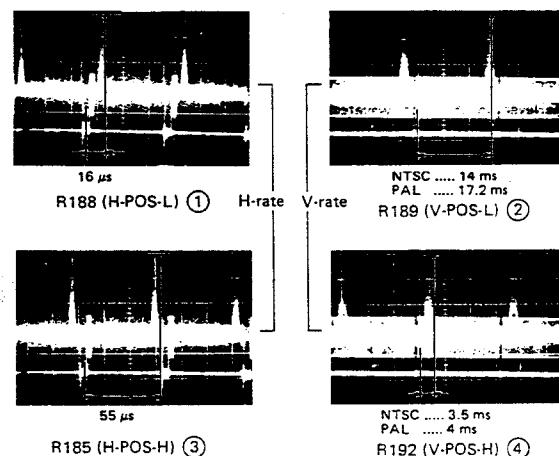

Fig. 5-4
- Adjust the MIX/SE lever as shown in Fig. 5-4.
- In the right figure, when the positioner is shifted in the direction of arrow (1), adjust R188 (H-POS-L) so that the phase between front of the sync pulse and peak is 16  $\mu$ s.